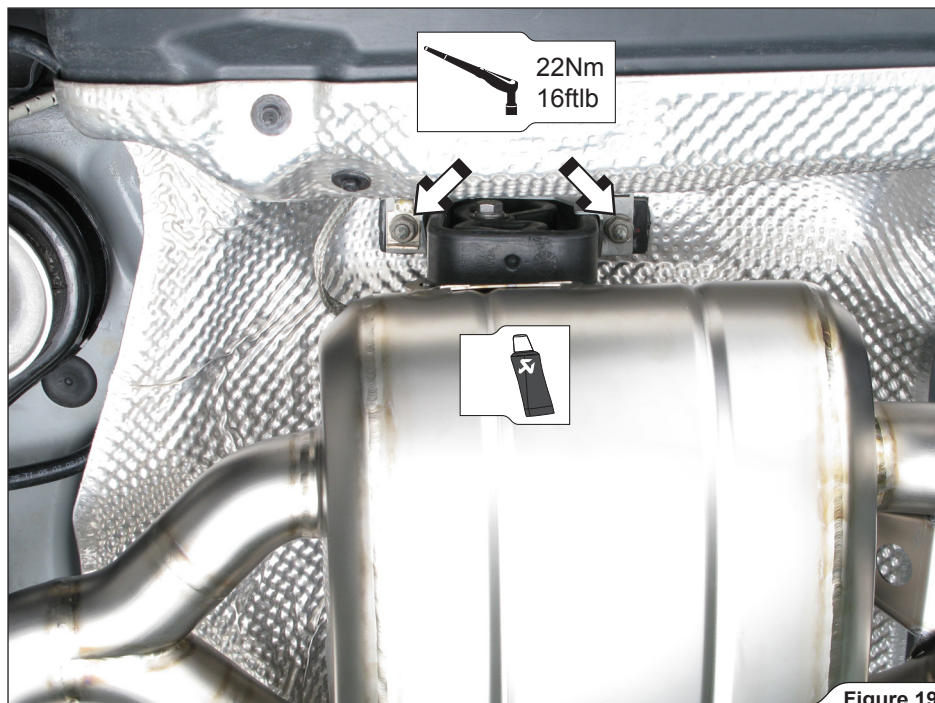

Figure 19
9. Tighten the stock muffler brackets and ground wires to the vehicle chassis (**Figure 19**).